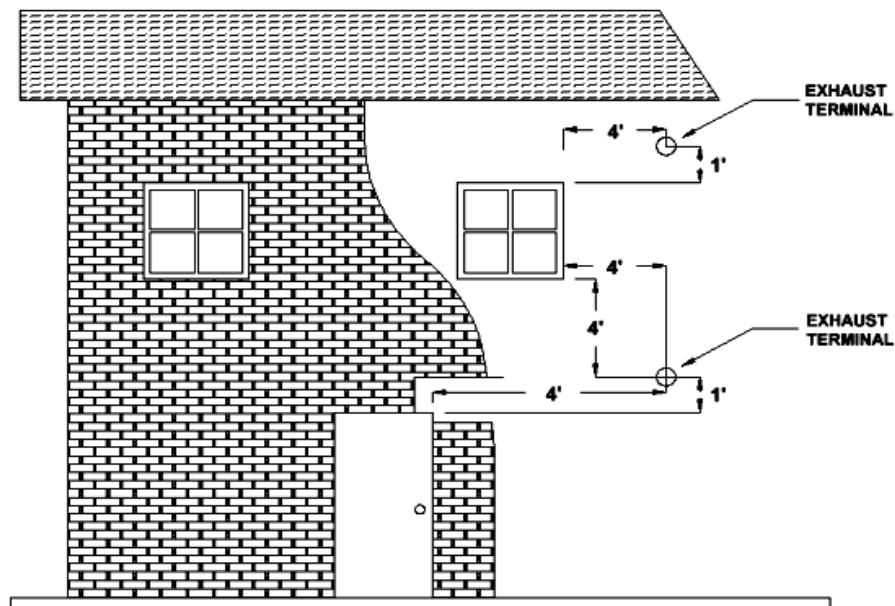

Figure 4a
The type of installation must first be considered before determining the exact location of the venting termination in relation ship to doors, window, cavities or air vents. See figures 4a and 4b below.
- a. **Without** Outside Air connected to the unit. For these types of installations please refer to the dimensions listed below in figure 4a.